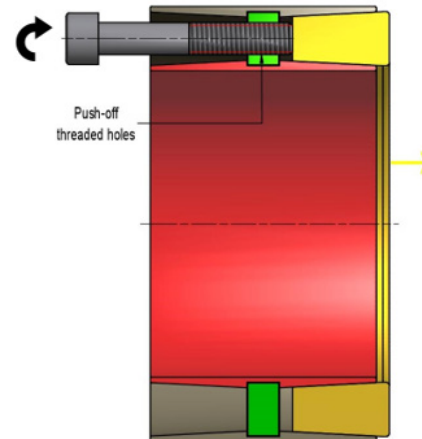

Fig. 6
5. Release the rear thrust ring by tightening the screws in all push-off threads against rear thrust ring in a crosswise pattern, not exceeding  $\frac{1}{4}$  turns for several passes (see fig. 6). Hub and released Locking Assembly are then normally removed together from the shaft.